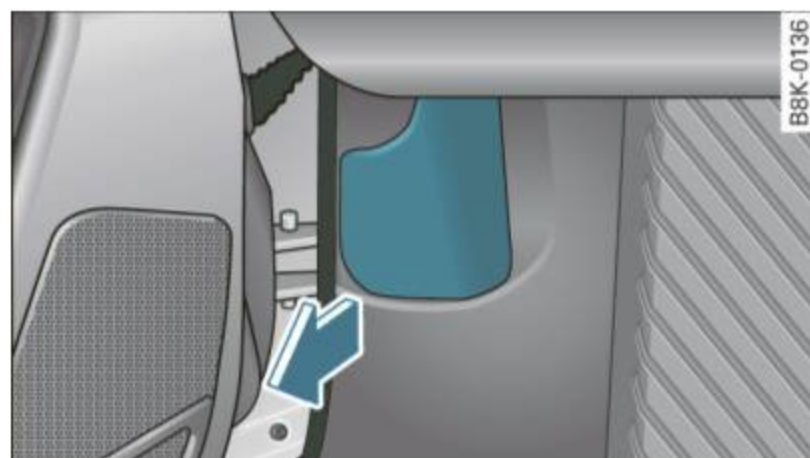

Fig. 210 Driver's side footwell: engine hood release lever
- Pull the release lever on the left under the instrument panel ⇒ fig. 210 in the direction of the arrow.